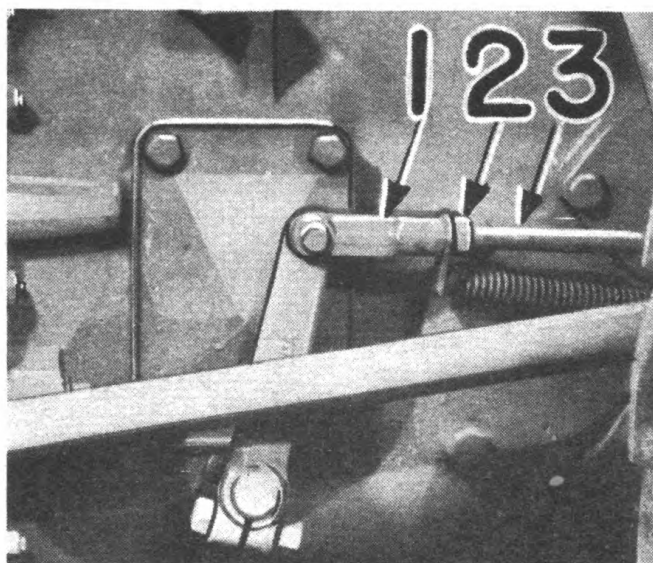

Fig. 11. Adjustment for "Free Movement" of Clutch Pedal
3. Adjust length of pedal connection so as to provide $\frac{1}{8}$ inch clearance between fingers and throwout bearing shown as $\frac{1}{8}$ " in Fig. 69. This is accomplished by disconnecting the clevis at the clutch lever and unscrewing it to give the desired length Fig. 11. Be sure lock nut behind clevis is turned down securely. When length is correct, the foot pedal can be depressed about an inch before throwout bearing contacts the fingers. By depressing pedal the point of contact can readily be felt.